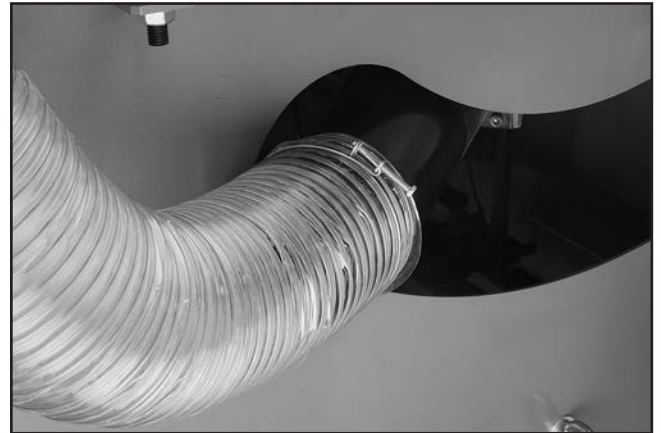

Figure 64. 5" dust hose attached to dust port.
1. Fit 5" dust hose over dust port on rear side of cabinet, as shown in **Figure 64**, and secure with hose clamp.